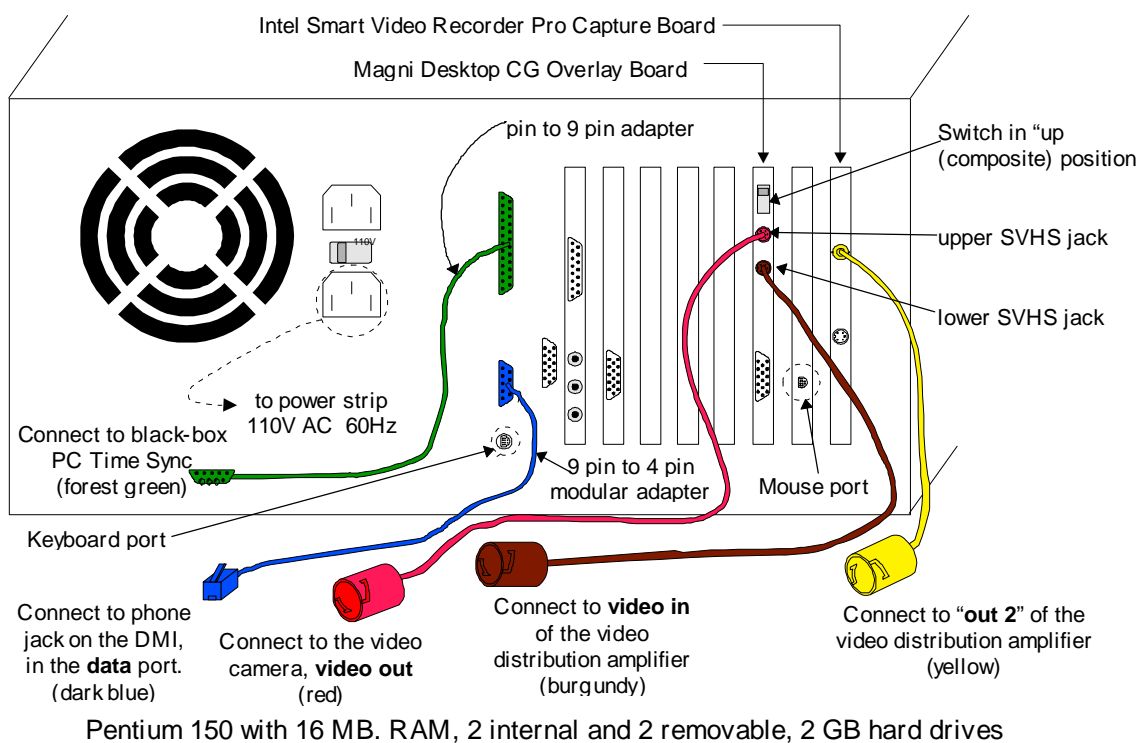

Figure 8
13. Attach the 25 PIN to 9 PIN adapter to the 25 PIN serial port on the back of the video PC and plug in an RS-232 (standardize) serial cable (see **Figure 8** [forest green]).
15. Attach the "9 PIN to 4 PIN modular" adapter to the standardize serial port on the back of the video PC and plug one end of the phone line into the other side of the adapter (see **Figure 8** [dark blue]).
17. Attach one of the cords supplied with the Magni Desktop CG overlay board to the upper SVHS jack of that board on the video log computer (see **Figure 8** [red]). Then attach the RCA end of the 15-foot “male RCA to male BNC” patch cord to the cord on the overlay board. Also, make sure that the switch on the top of that board is in the **up** (composite) position.
20. Connect the other cord supplied with the Magni Desktop CG overlay board to the lower SVHS jack of that board on the videolog computer (see **Figure 8** [burgundy]) and attach the RCA end of the short male RCA to male BNC patch cord to it.
22. Connect a BNC patch cord to the BNC jack of the capture board on the back of the video computer (see **Figure 8** [yellow]).